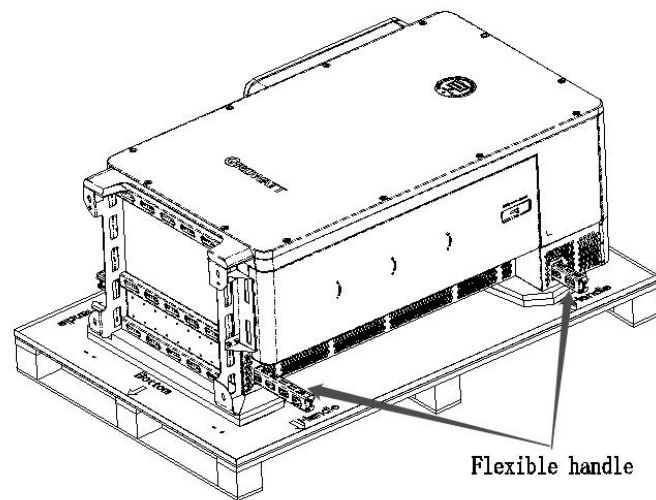

Fig 5.8 Lifting diagram
- 1> Unpack the inverter (remove the roof panel and the support plates) and pull out the handles, as shown in Figure 5.8 below. It requires four people to lift the Storage Inverter and move it to the installation position;